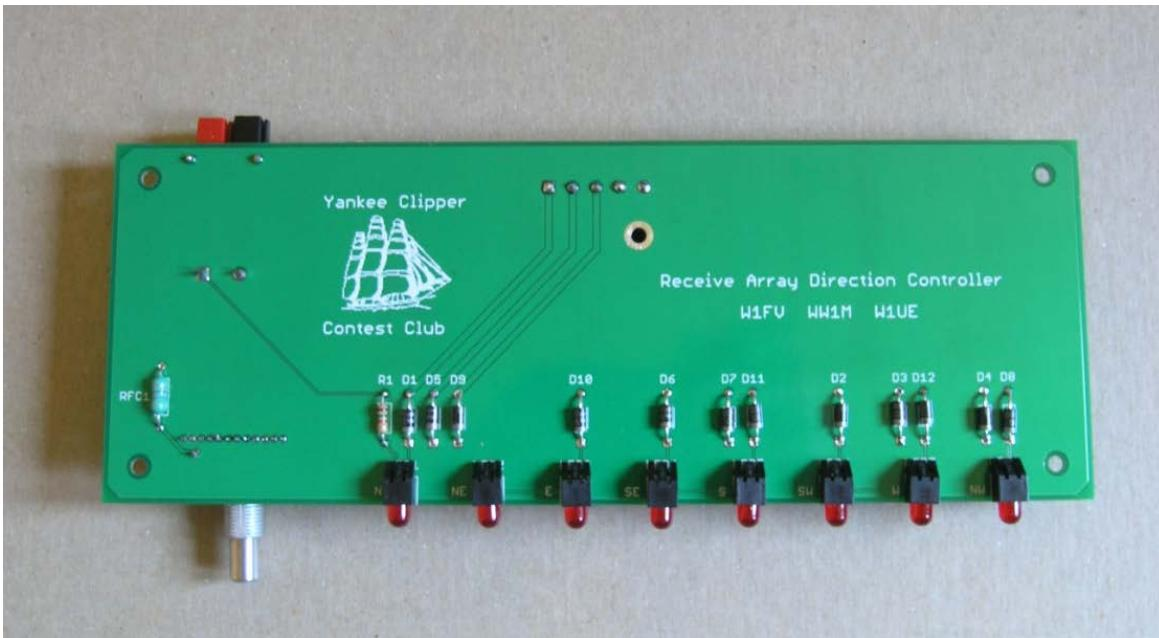
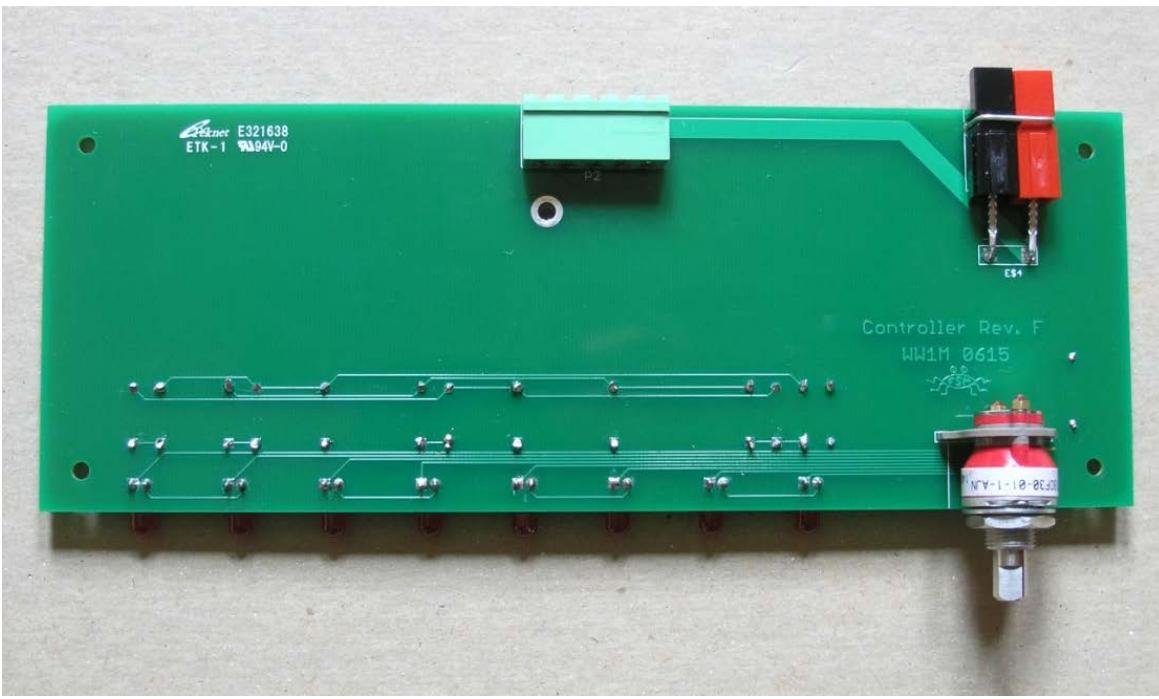

Figure 26. Top side of direction controller PCB
Figure 27. Bottom side of direction controller PCB
2. Looking at the top (component) side of the board, you will see the part designators (for example, R1, D1, etc.) are stenciled on the board. The top side of the PCB is also identified by the Yankee Clipper Contest Club logo stenciled on the board. All components except the terminal block, rotary switch, and DC power connectors mount to the top side of the PCB. Refer to Figure 26 and Figure 27 as you follow these instructions.
6. Install and solder eight LED's, (N, NE, E, SE, S, SW, W, NW). Be careful not to bridge solder across the LED leads on the bottom side of the board. Be sure the LED's are lined up straight and facing outward from the board edge as shown in Figure 26.
11. Mount the connector on the bottom side of the PCB and solder the pins on the top side as shown in Figure 27.
13. Cut off all excess lead lengths on both sides of the PCB and check carefully for solder bridges. The finished PCB should look like Figure 26 from the top and Figure 27 from the bottom.